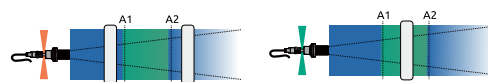

Figure 18 - Trigger on In Range (A1<S<A2)
- The output signal is switched when the object is located a distance (S) within the configured range. The working principle is shown in Figure 18. When the object is not present or outside the configured range, the output is turned on. The user range needs to be set during operation: $A1 < A2$.